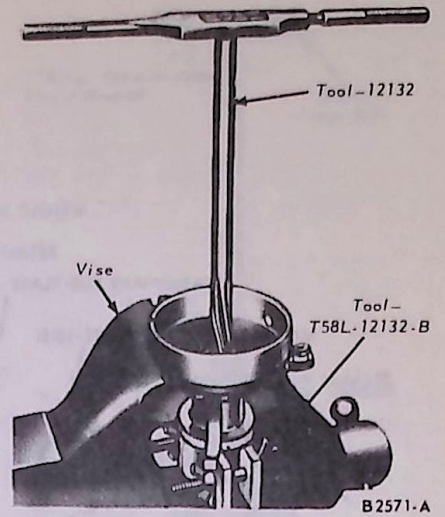

FIG. 10 Burnishing Bushing—Typical
2. Burnish the bushing to the proper size (Fig. 10).